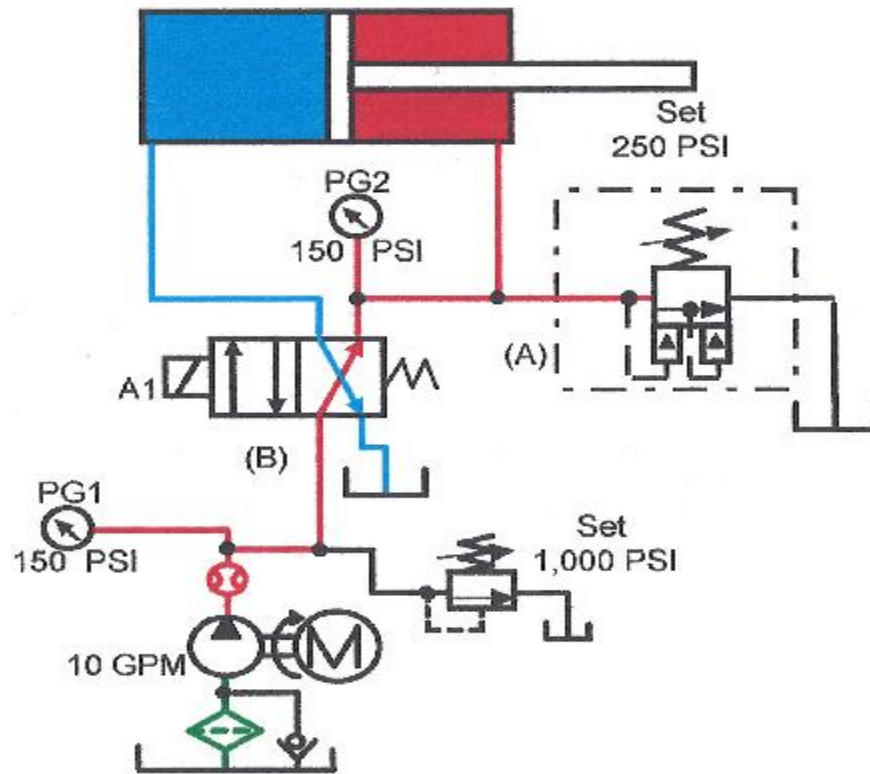

Figure 20-22. Pump-unloading circuit with kick-down sequence valve — cylinder retracting.
The cylinder retracts at the pressure required to move it, Figure 20-22. Kick-down sequence valve (A) stays closed because its setting is higher than the pressure retracting the cylinder. The cylinder retracts until the end of stroke or until it contacts a dead stop.